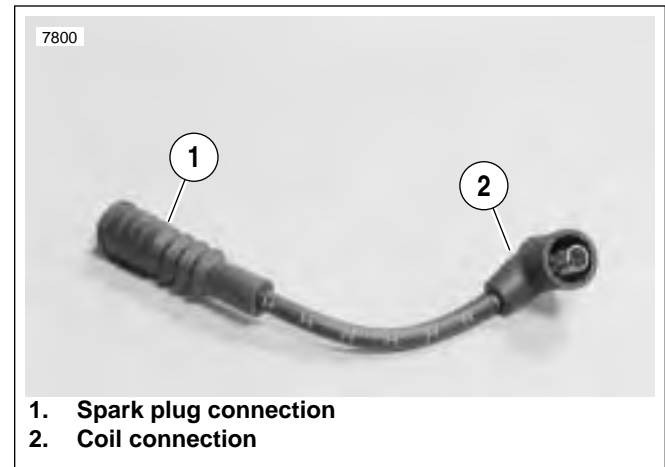

Figure 7-28. Spark Plug Cable (Typical)
- See Figure 7-28. Inspect spark plug cable. Replace cable if worn or damaged.